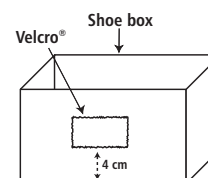

Figure 4
1. To construct the propulsion device, mark an "X" in the center of the end of the shoe box and glue a 5-cm section of Velcro® to the location of the "X." See figure 4.